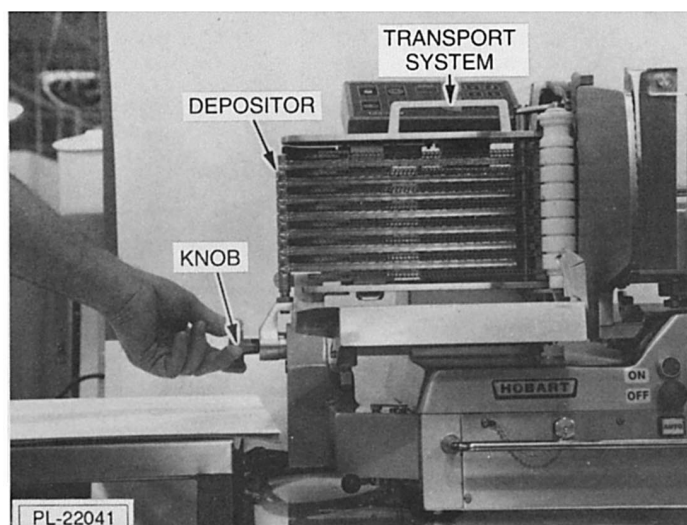

Fig. 38
3. Remove depositor by unscrewing the knob (Fig. 38). The knob does not come off.